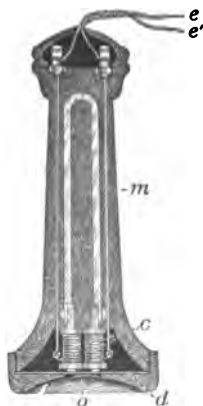

FIG. 219
**339. The Telephone.** — Another device which makes use of the magnetic effect is the telephone. Fig. 219 is a view of the inside of a telephone *receiver*, but it will serve as well to show how the instrument into which we talk is arranged.